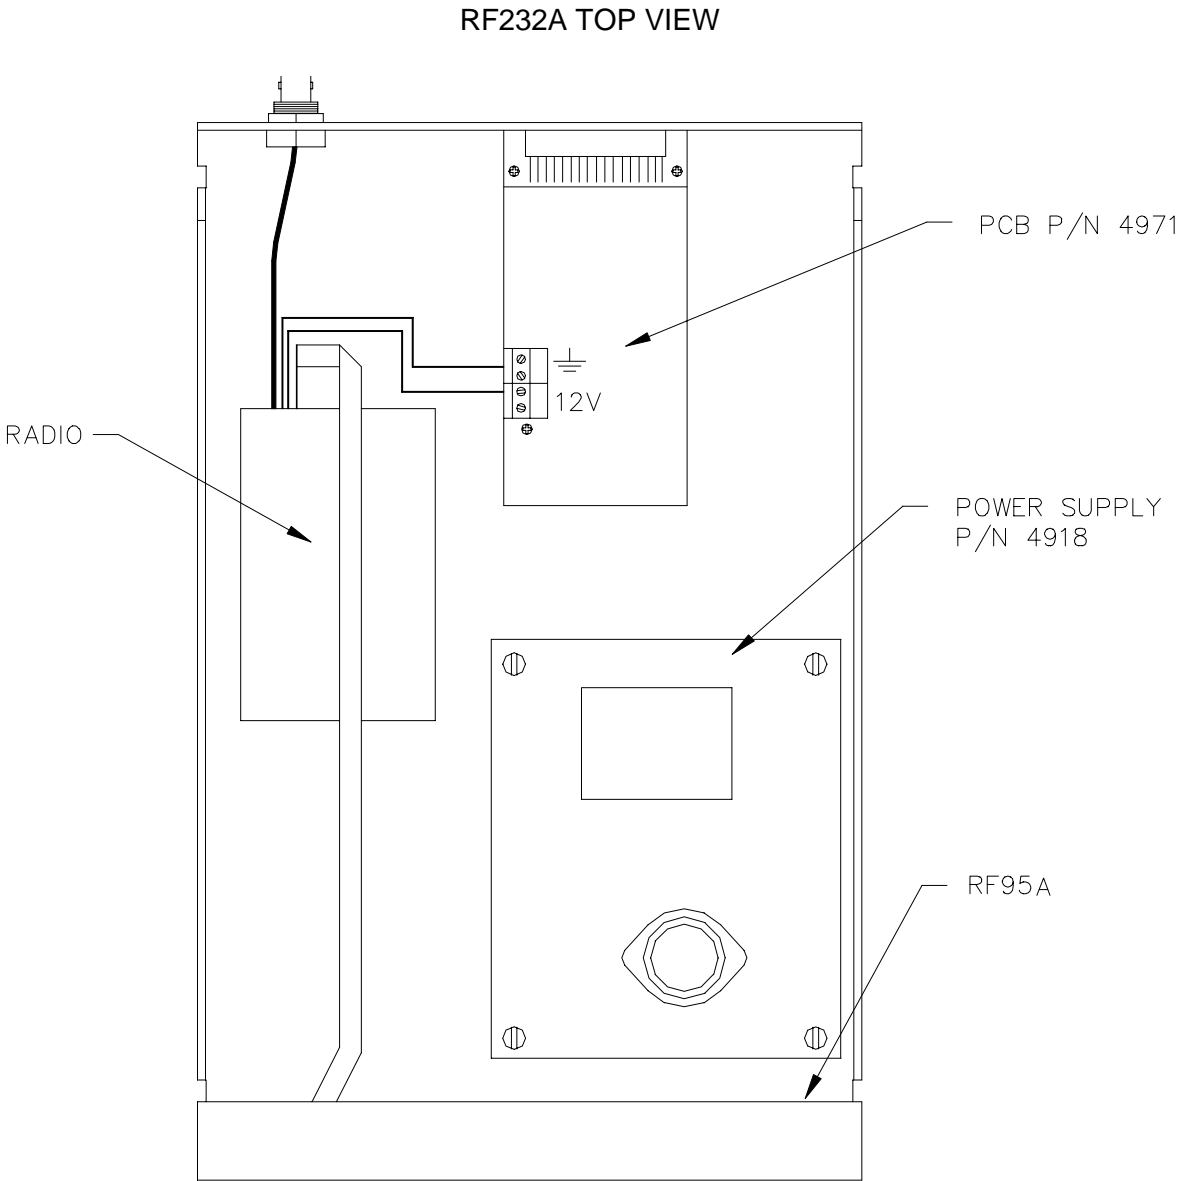

FIGURE 3-8. Top View of the RF232A Base Station
2. Lift the cover off the RF232A and locate the power supply (P/N 4918) as shown in Figure 3-8.